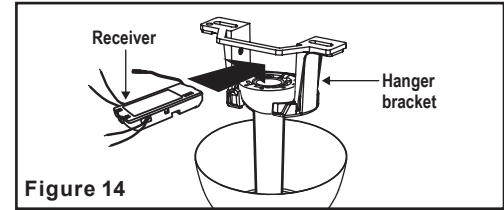

Figure 14
Step 1. Insert the receiver into the hanger bracket with the flat side of the receiver facing the ceiling. (Fig. 14)